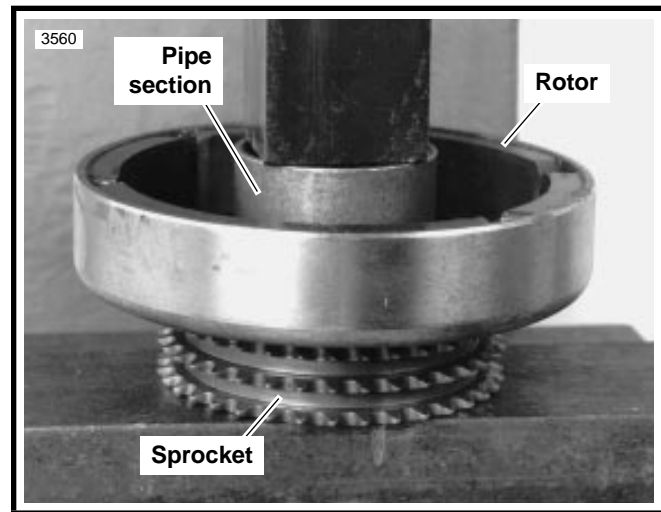

Figure 7-28. Pressing Rotor onto Sprocket
7. See Figure 7-28. Attach rotor to sprocket.